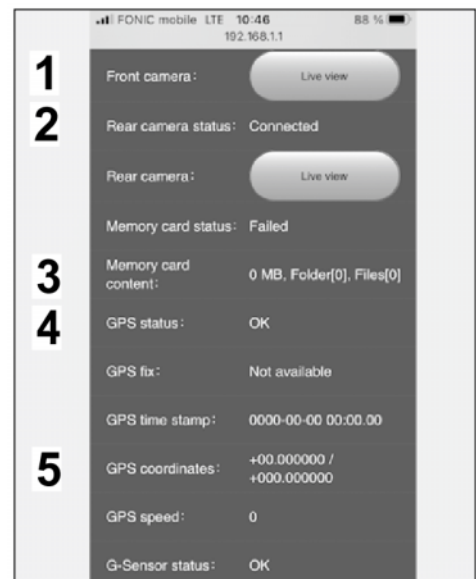

Figure 28
6.2 Display of live images from front camera, connection status, memory card status, GPS and radar status and more (⇒ *Figure 28*).